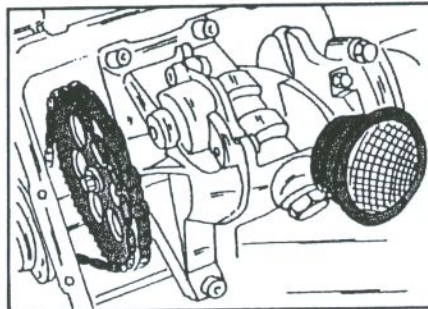

Fig. 1.77 – Remove the support bridge at the points shown by the arrows when removing the oil pump (5-cyl).
- Remove the socket head bolts and take off the pump. Three bolts are used. Two on one side and one on the other side. Fig. 1.76 shows the fitted pump, as seen onto the open crankcase. In the case of the five-cylinder engine a support bridge is fitted to the pump and the bottom of the crankcase, as can be seen in Fig. 1.77, which must also be removed. Also on this engine remove the inlet manifold support bracket.